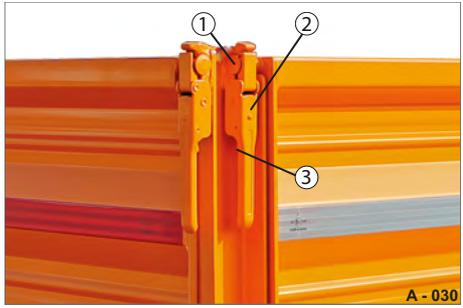

Fig. 37 Lock secured
- ▶ Press the lock safeguard (Fig. 37/3).
- ▶ Pull on the lock lever (Fig. 37/2 & Fig. 37/2).
The bearing pin (Fig. 37/1) is released.
- ▶ Press the lock lever (Fig. 37/2) shut with your hand flat.
The lock safeguard (Fig. 37/3) snaps shut.
The bearing pin (Fig. 37/1) is locked.